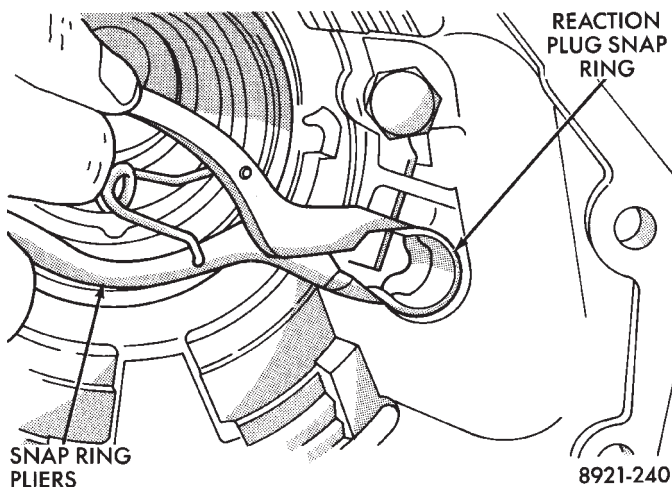

Fig. 238 Reaction Plug And Snap-Ring Installation
(4) Install reaction plug snap-ring (Fig. 238). **Compress snap ring only enough for installation; do not distort it.**